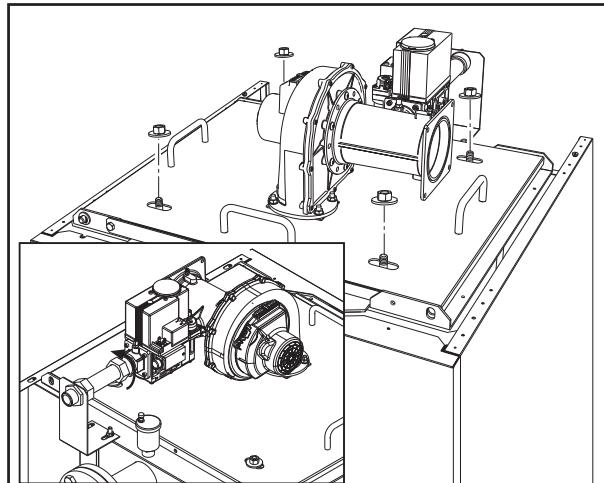

fig. 43
- Remove the four nuts and washers (fig. 43).
- Unscrew the gas connection (box fig. 43).
Thoroughly tighten the 4 nuts (fig. 43).